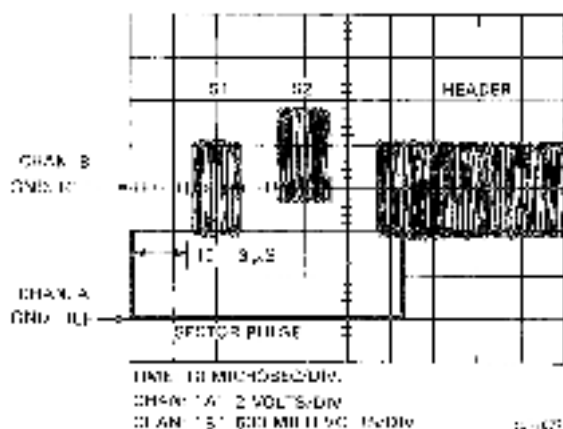

Figure 9-1 Servo Bursts and Sector Pulse
6. Using the two flat-blade screwdrivers in the adjusting slots, slide the positioner baseplate until the  $15 \pm 3$  microsecond specification between the fall of the sector pulse and the rise of the ST servo burst can be met. (See Figure 9-1.)